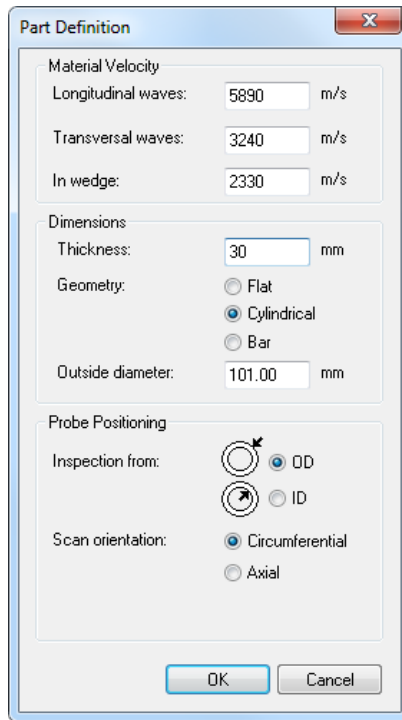

Figure 4-14 The Part Definition dialog box
4. In the **Part Definition** dialog box (see Figure 4-14 on page 241):